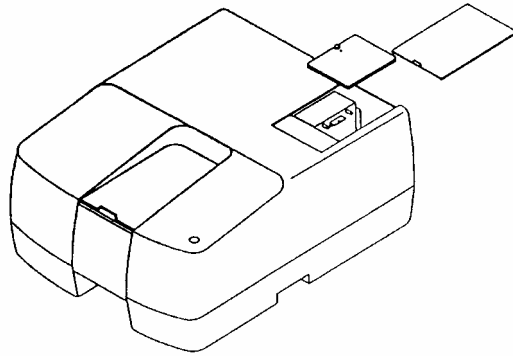

Fig. 4.8 Removal of light source lid (V-550/560/570)
- (1) Slide the outer lid of the light source unit to remove it and then remove the inner lid (Fig 4.8).